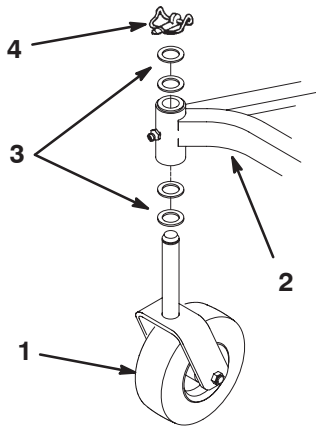

Figure 4
- Remove the lynch pin and 2 thrust washers shipped on each castor wheel assembly. Leave 2 thrust washers on each shaft, insert the shafts into the frame mounting tube, and install the thrust washers and lynch pin (Fig. 4).